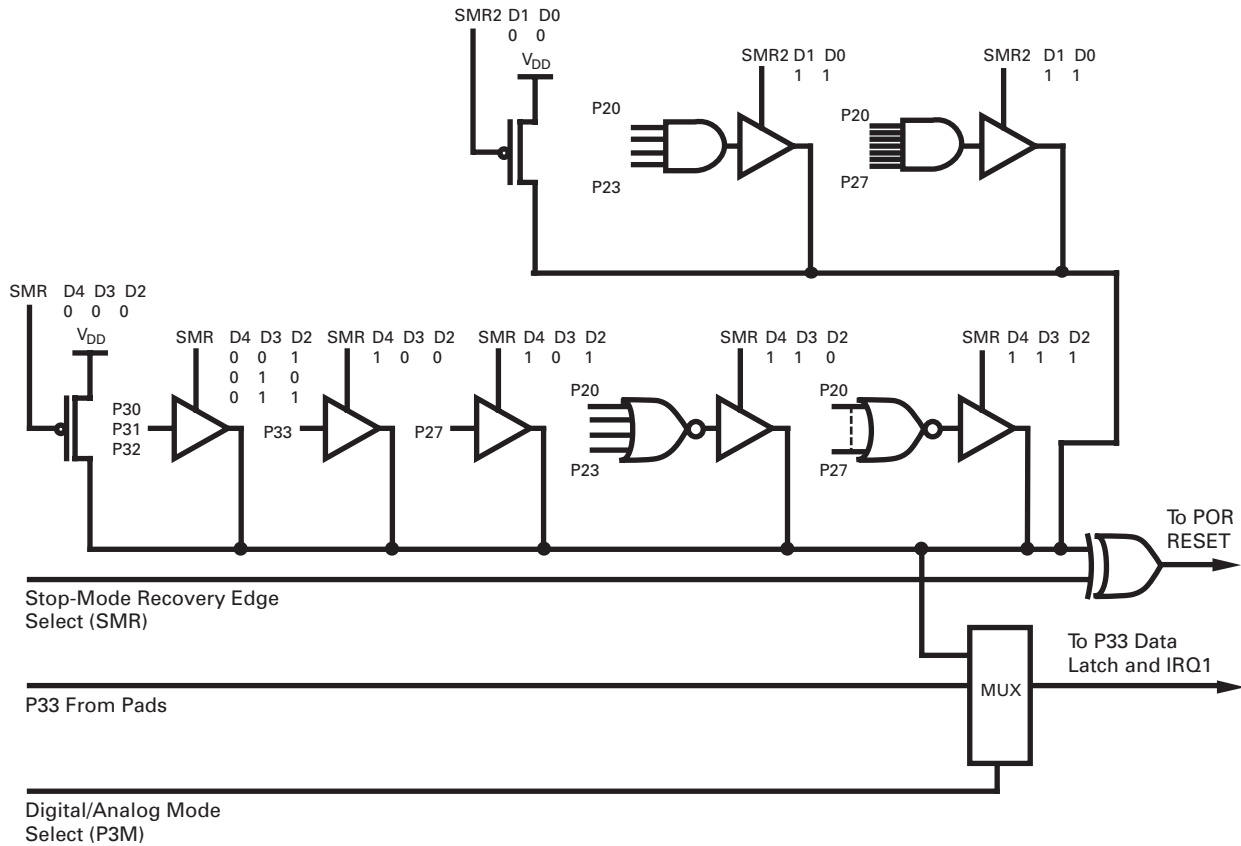

Figure 28. Stop-Mode Recovery Source
**Stop-Mode Recovery Source (D2, D3, and D4).** These three bits of the SMR specify the wake-up source of the STOP recovery (Figure 28 and Table 13). When the Stop-Mode Recovery Sources are selected in this register, then SMR2 register bits D0,D1 must be set to 0.
**Stop-Mode Recovery Edge Select (D6).** A 1 in this bit position indicates that a high level on any one of the recovery sources wakes the Z8 from STOP mode. A 0 indicates low-level recovery. The default is 0 on POR (Figure 28). This bit is used for either SMR or SMR2.